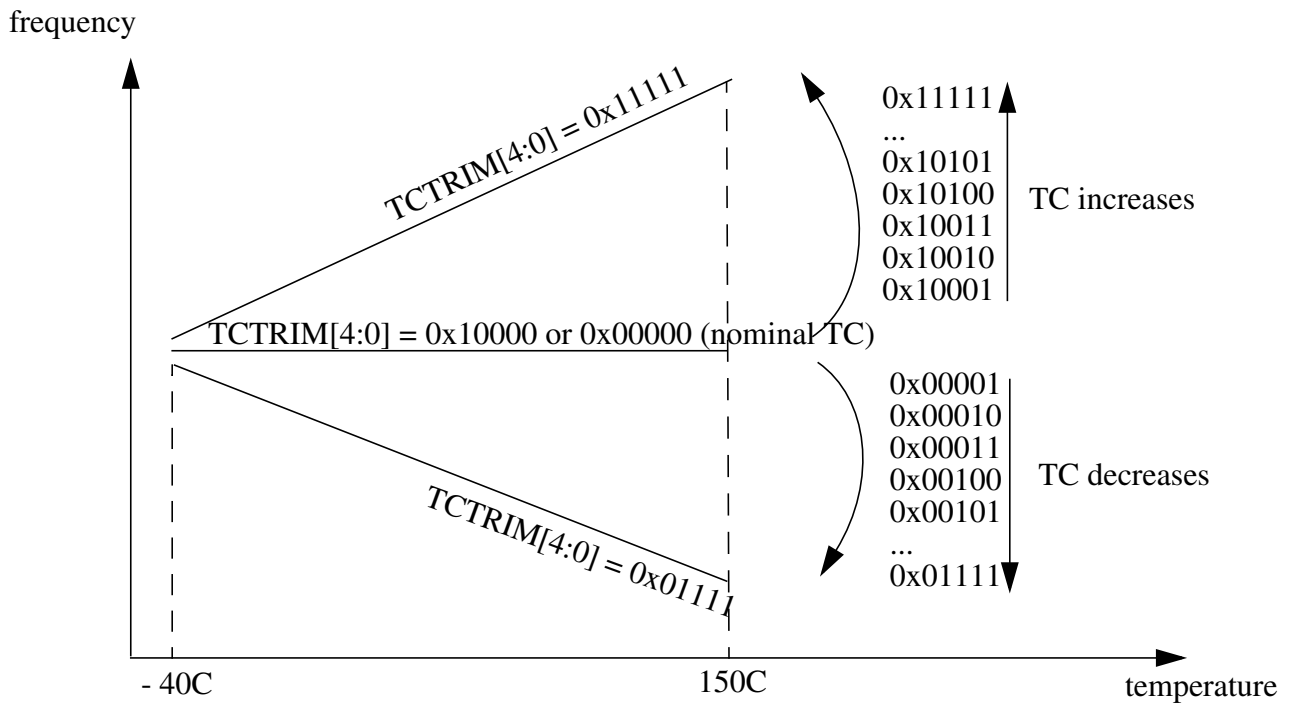

Figure 10-26. Influence of TCTRIM[4:0] on the Temperature Coefficient
15-11 TCTRIM[4:0]	<p>IRC1M temperature coefficient Trim Bits</p> <p>Trim bits for the Temperature Coefficient (TC) of the IRC1M frequency.</p> <p>Figure 10-26 shows the influence of the bits TCTRIM[4:0] on the relationship between frequency and temperature.</p> <p>Figure 10-26 shows an approximate TC variation, relative to the nominal TC of the IRC1M (i.e. for TCTRIM[4:0]=0x00000 or 0x10000).</p>